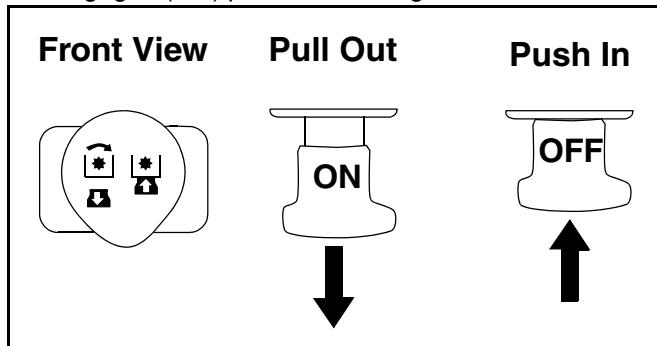

Figure 12
- Pull the PTO (Blade Engage) knob outward into the engaged (ON) position. See Figure 12.